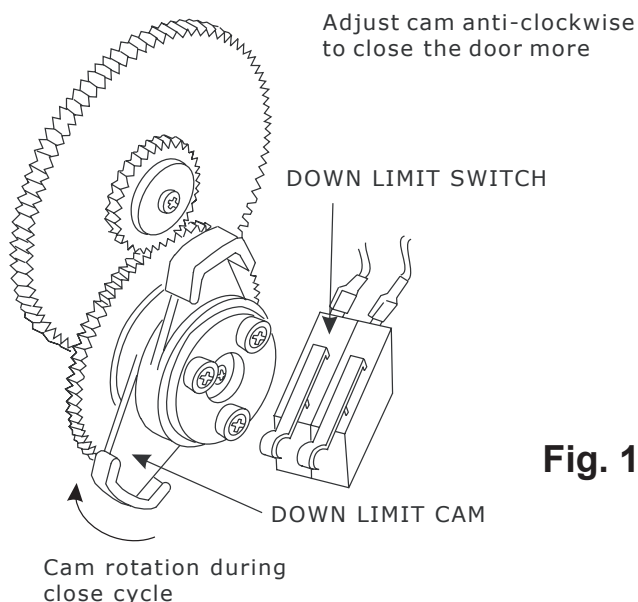

Fig. 13
- 4 Rotate the DOWN LIMIT CAM by hand in a clockwise direction (see Fig 13) until the cam clicks the close limit switch.